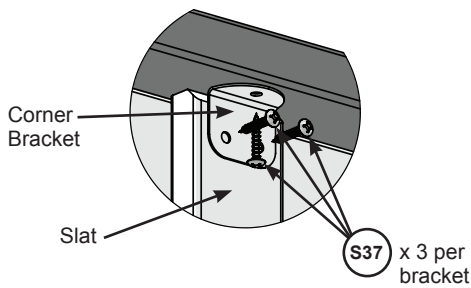

Fig. 12.2
C: In the opening of (062) Back Narrow Panel, from the inside, attach (123) Small Half Wall Top tight to the corner of the panel with overhang facing in with 1 (S11) #8 x 2" Wood Screw at each end as shown in fig. 12.2.